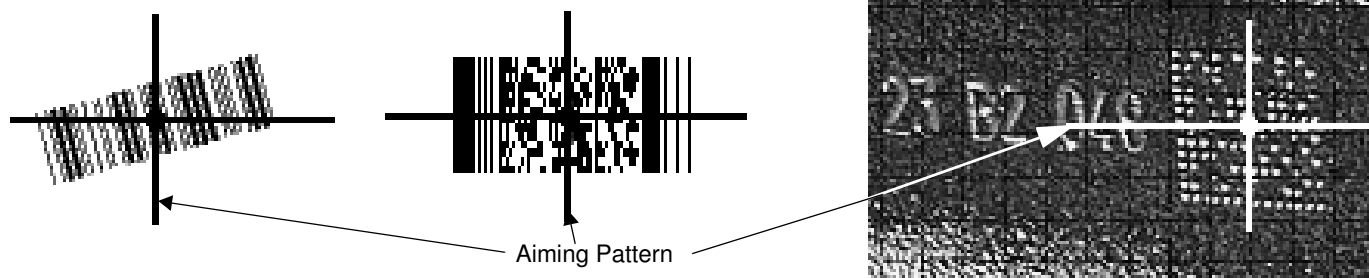

Figure 2-6 Scanning Orientation with Aiming Pattern
- ✓ **NOTE** Scanning Direct Part Mark (DPM) bar codes with the DS3508-DP20005R digital scanner: Due to the reflective nature of some surfaces used with DPM bar codes (see Figure 2-6), it may be necessary to tilt the scanner at an angle relative to the target (Motorola recommends 25-45 degrees). For example, when scanning a 15 mil dot peen Data matrix bar code marked on an aluminum surface with the DS3508-DP20005R, present the target between two and three inches from the nose of the scanner, and tilt the scanner at a 30 degree angle.